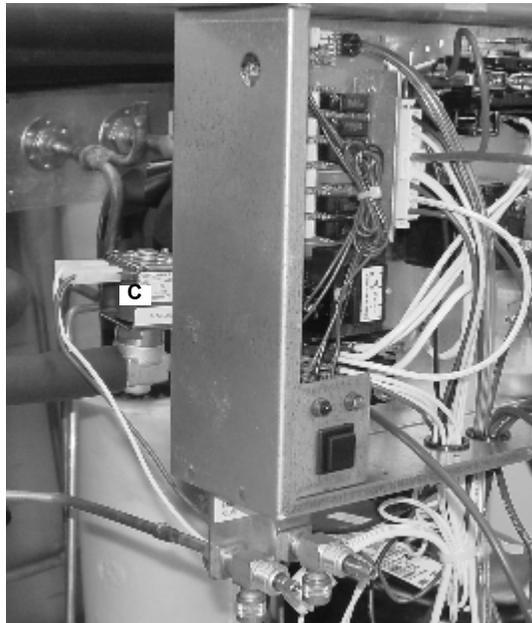

Figure 47.
55. Connect the hot gas valve harness (C) (white & red leads) to the hot gas valve (Figure 47).